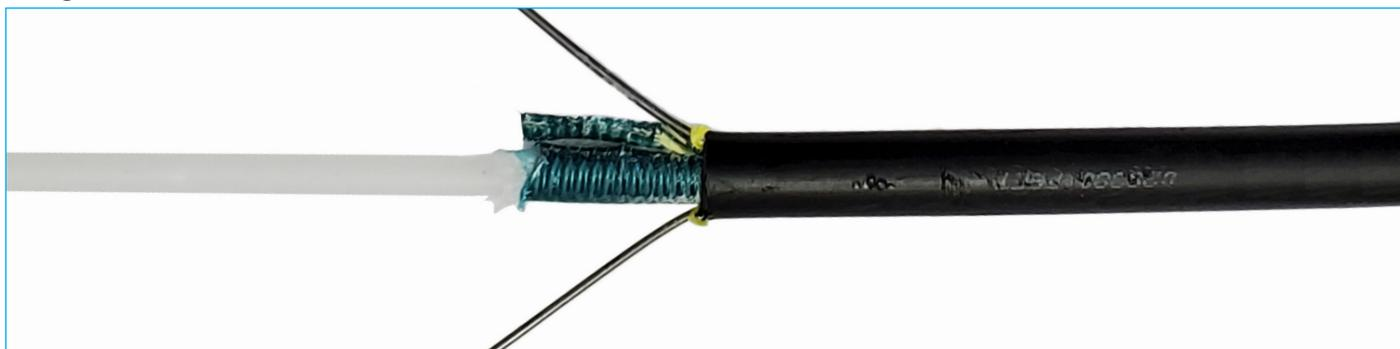
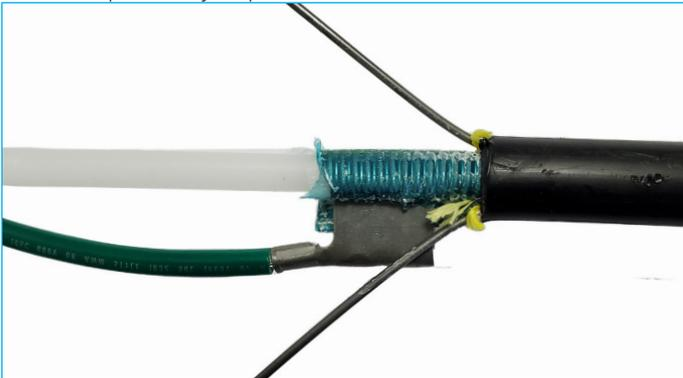

Figure 4
Figure 5
8.3 For armored cable, use company approved bonding hardware for bonding and grounding. If using an alligator-type bond clip, remove all but 1" of the metal shield. Pry open a 1" tab in the exposed metal shield where the shield overlaps. See Figure 4. Crimp the bond clip onto the edge of the shield. See Figure 5. Wrap the installed bond wire tightly with two or three wraps of vinyl tape.